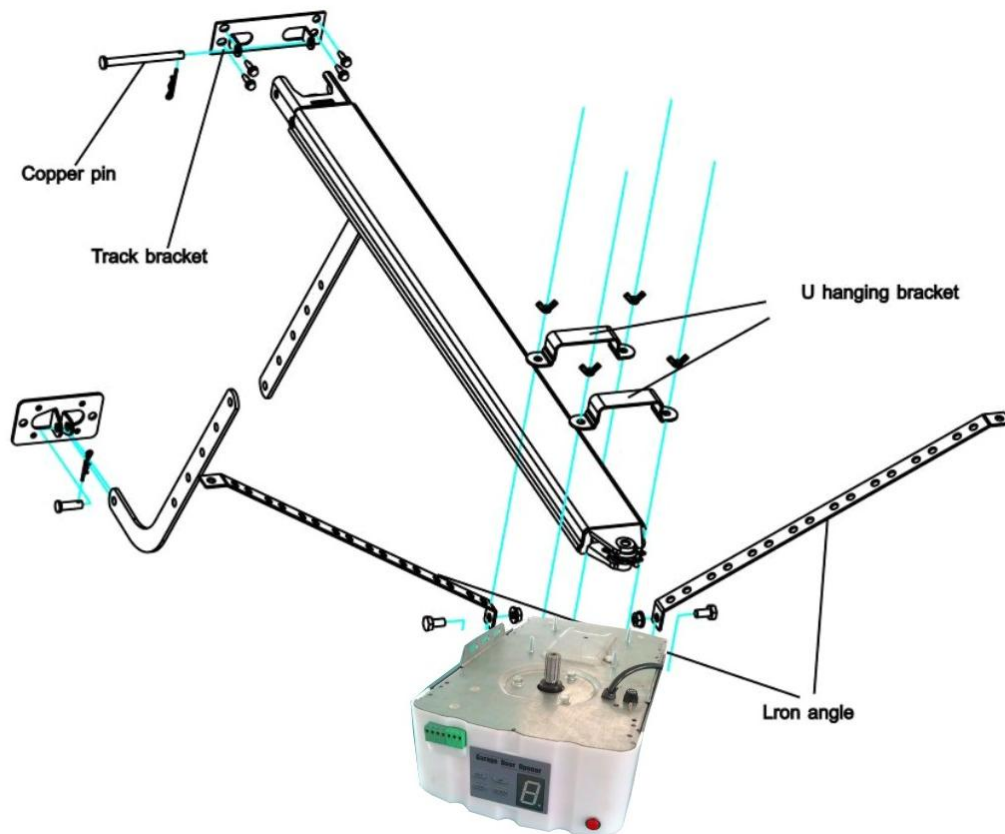

Fig. 1
2. Fixing the steel track to the bracket with copper pin. (Fig. 1)